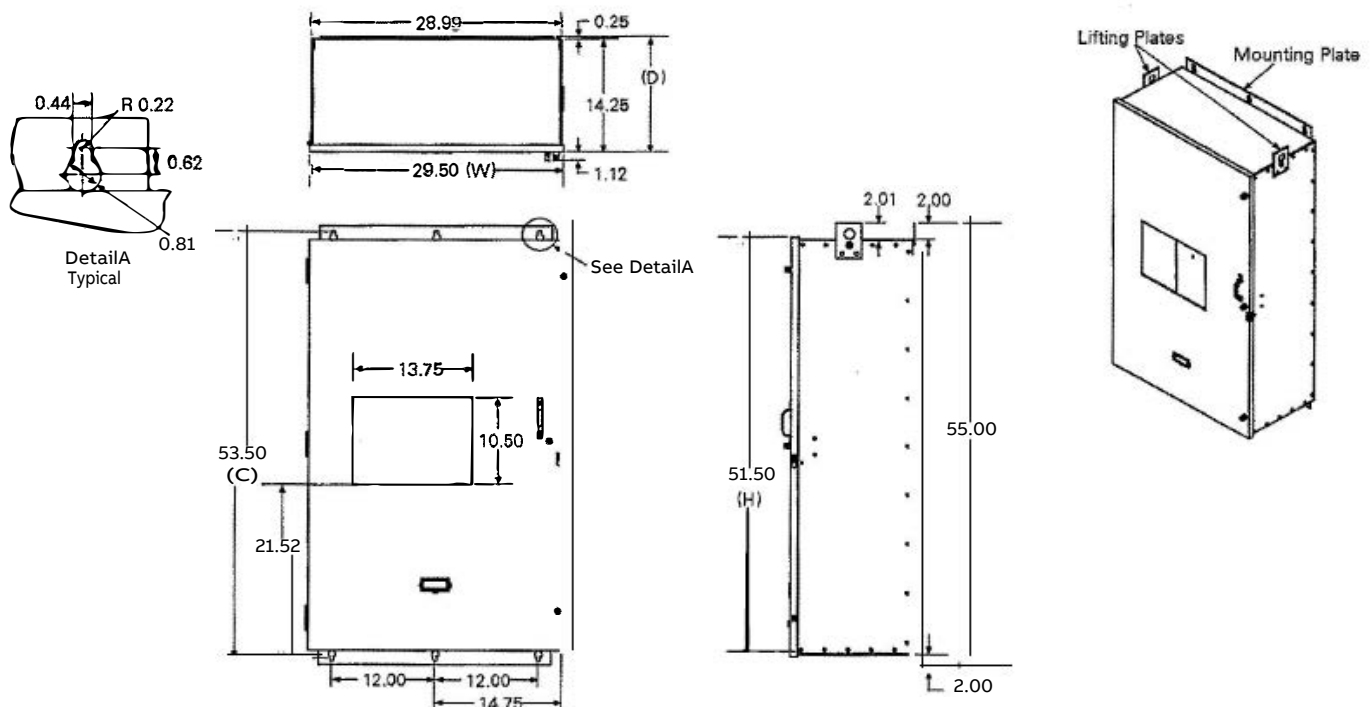

Figure2. Dimensions of 800A Enclosure.
1. Lifting plates are attached to the inside of the enclosure near the top for shipping. Remove the two lifting plates and reattach them to the outside of the enclosure side walls, as shown in Figures 2 and 3.
2. Remove the two enclosure mounting plates from the enclosure and reattach them to the outside of the rear wall, one at the top and one at the bottom, as shown in Figures 2 and 3, using the same screws, washers, and nuts. Key-slotted holes are on 12-inch centers.